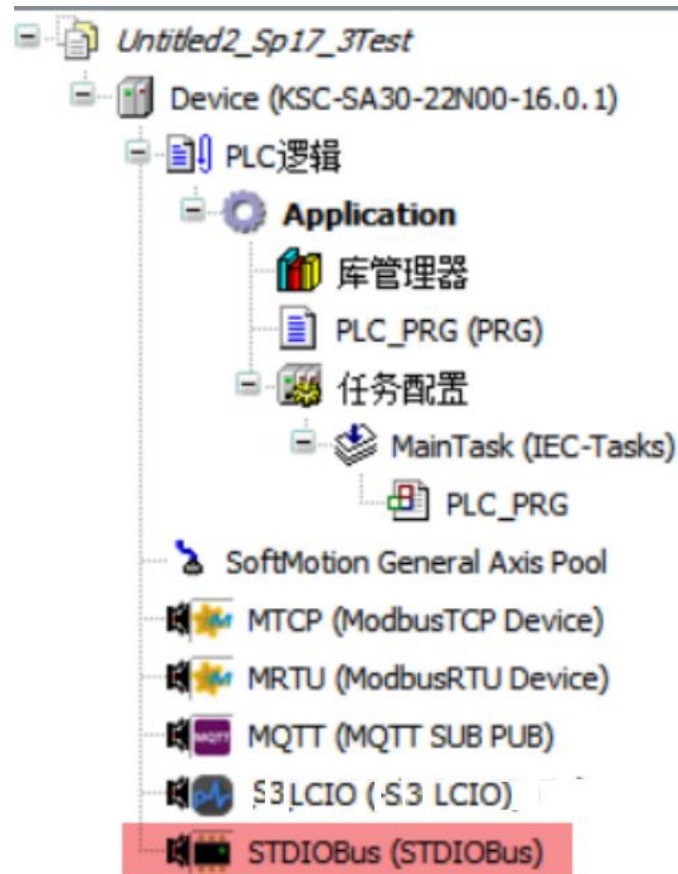

Figure 4-1 Backplane Bus
- 2) The local backplane bus "STDIOBus (STDIOBus)" is added by default on the left side of the programming interface, right click "STDIOBus (STDIOBus)", select "Update Device" and update to "STDIOBus (STDIOBus)", as in Figure 4-1.